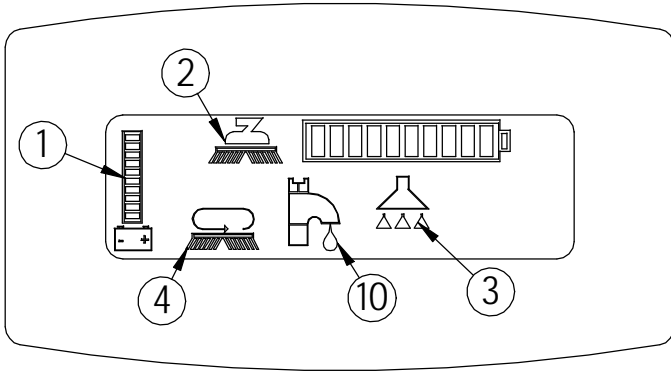

FIGURE 7.
2. SCRUBBING DECK DOWN PRESSURE GAUGE - SETS THE DOWN PRESSURE ON THE BRUSHES. (SEE FIGURE 7.)
3. VACUUM ON - INDICATES THE VACUUM IS "ON". (SEE FIGURES 7. AND 8.)
4. SCRUBBING MOTORS ON - INDICATES THE BRUSH MOTORS ARE "RUNNING". (SEE FIGURES 7. AND 8.)
10. WATER ON - INDICATES THE SOLUTION FLOW IS "ON" (SEE FIGURE 7.)